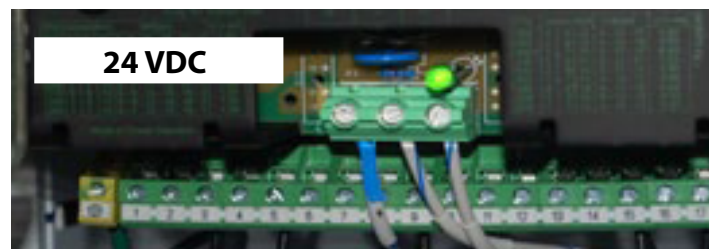

figure 3
4) After main VAC is known, wire the terminal jumpers on the 24 VDC power supply according to the wiring chart located on the 24 VDC power supply. This wiring chart is also located on page 6 of this manual. *figure 3*
Warning: Do not turn the system on before wiring the correct inputs and bridging the correct terminals on the power supply located inside the electrical cabinet. Failure to do so may cause damage to the system and possible injury. *See figure 3.*